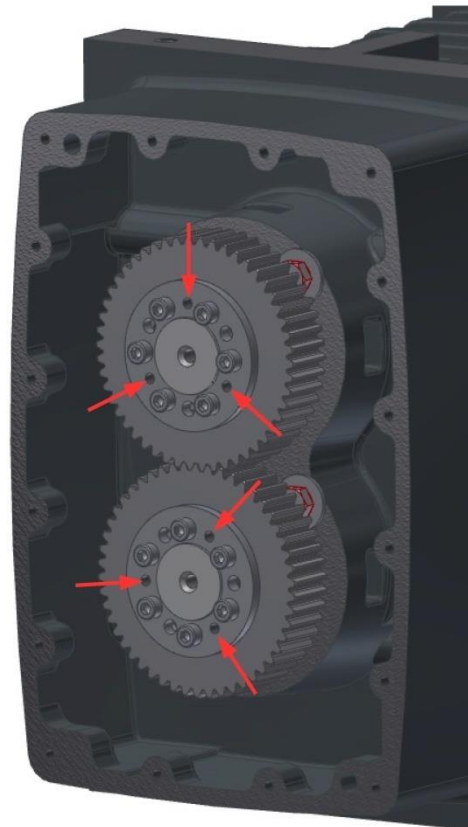

FIGURE 7-8 – TIGHTEN SET SCREWS
55. Apply loctite 243 to 6 set screws {M6 x 12mm}. Install 3 of these screws into each of the 2 gear locking assemblies. These set screws go between the existing screws in the locking assembly through the unthreaded holes in the outer ring into the threaded holes in the inner ring. The purpose of these set screws is to keep pressure on the spacer that is between the gear and bearing inner race. Tighten the screws to 25 in-lb of torque. See .FIGURE 7-8